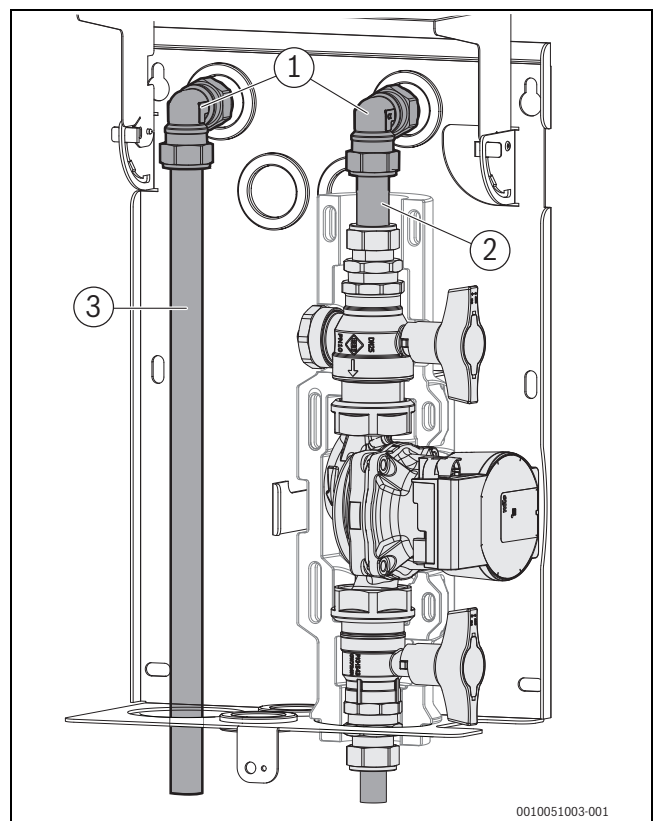

Fig. 19 Establishing the hydraulic connection (option 1, hybrid manager not shown)
- ▶ Mount the \varnothing 22 mm elbow clamping ring fitting and the pipe connector from the scope of delivery on the pump line (→ Fig. 19).